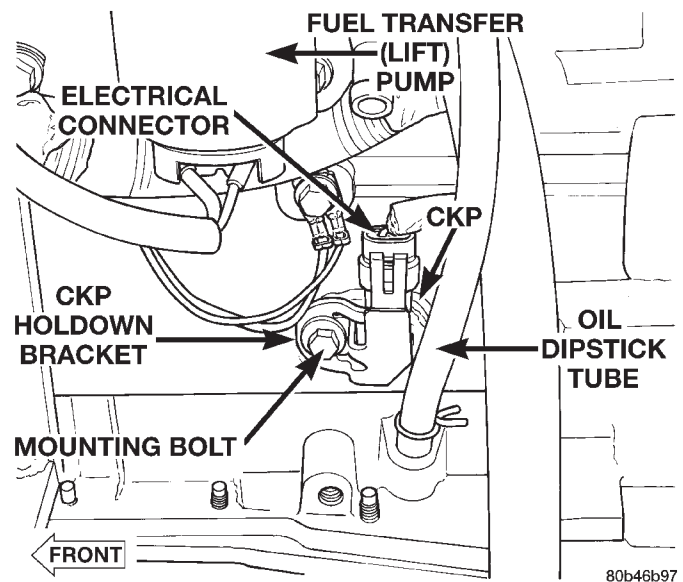
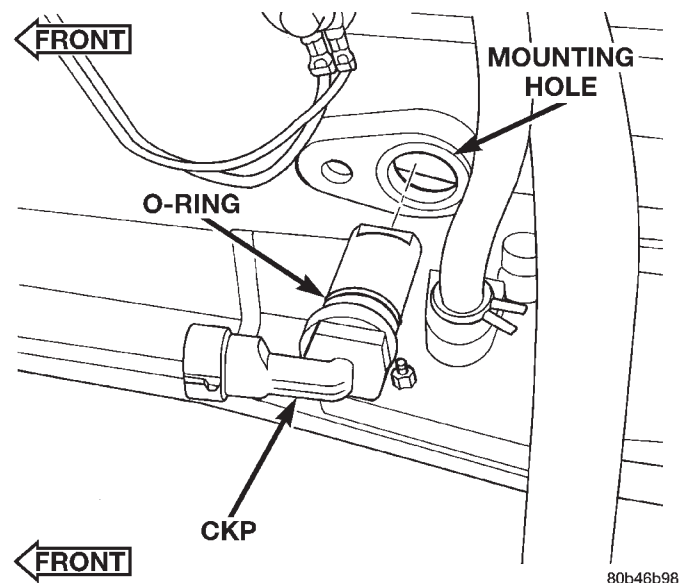

Fig. 26 Crankshaft Position Sensor (CKP) Location
Fig. 27 CKP Removal/Installation
The CKP is located on the left/rear side of engine block near the starter motor (Fig. 26).
- (1) Disconnect both negative battery cables at both batteries.
- (2) Remove starter motor. Refer to Group 8B, Starter.
- (3) Disconnect electrical connector at CKP (Fig. 26).
- (4) Remove CKP mounting bolt and hold down bracket (Fig. 26).
- (5) Pull CKP from engine block with a slight twisting action.
- (6) Discard old CKP o-ring (Fig. 27).